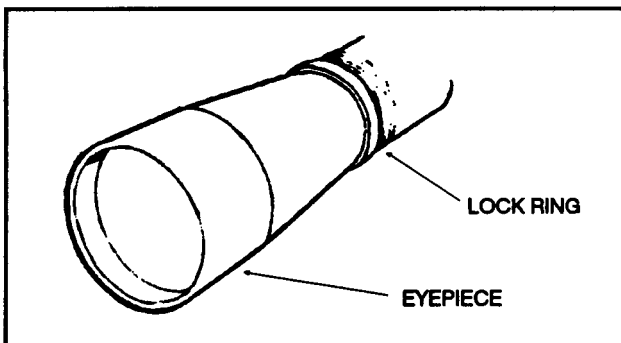

Figure 2-19. Eyeiece adjustment.
(4) ***Eyeiece adjustment.*** The eyepiece (Figure 2-19) is adjusted by turning it in or out of the barrel until the reticle appears crisp and clear. Focusing the eyepiece should be done after mounting the scope. The sniper grasps the eyepiece and backs it away from the lock ring. He does not attempt to loosen the lock ring first; it loosens automatically when he backs away from the eyepiece (no tools needed). The eyepiece is turned several turns to move it at least 1/8 inch. It takes this much change to achieve any measurable effect on the focus. The sniper looks through the scope at the sky or a blank wall and checks to see if the reticle appears sharp and crisp. He locks the lock ring after achieving reticle clarity.